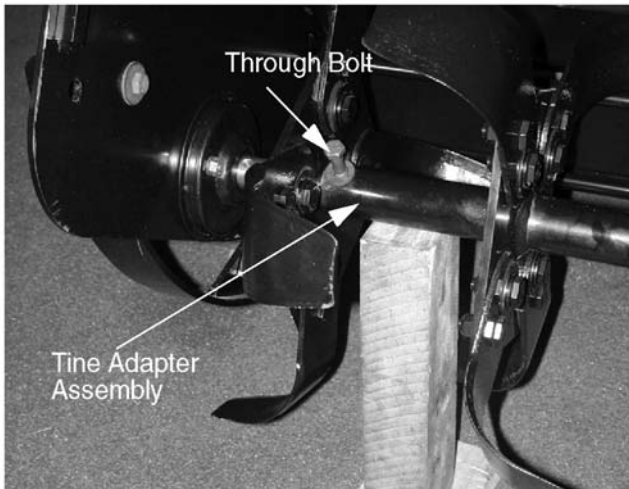

Figure 8-111.
4. Remove the through-bolt that holds the tine adapter assembly to the tine shaft using two 9/16" wrenches. See Figure 8-111.